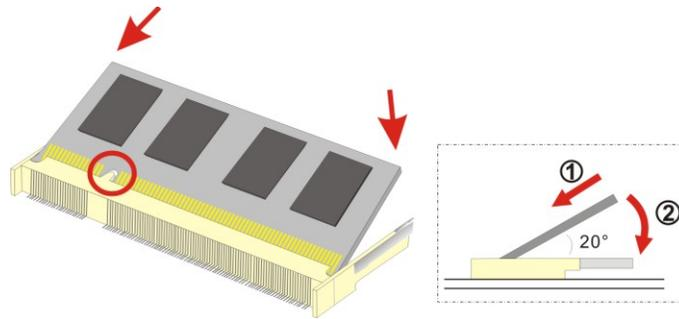

Figure 4-4: SO-DIMM Installation
To install a SO-DIMM into a SO-DIMM socket, please follow the steps below and refer to **Figure 4-4**.
- Step 3:** Insert the **SO-DIMM**. Push the memory in at a 20° angle. (See **Figure 4-4**)
- Step 4:** **Seat the SO-DIMM**. Gently push downwards and the arms clip into place. (See **Figure 4-4**)